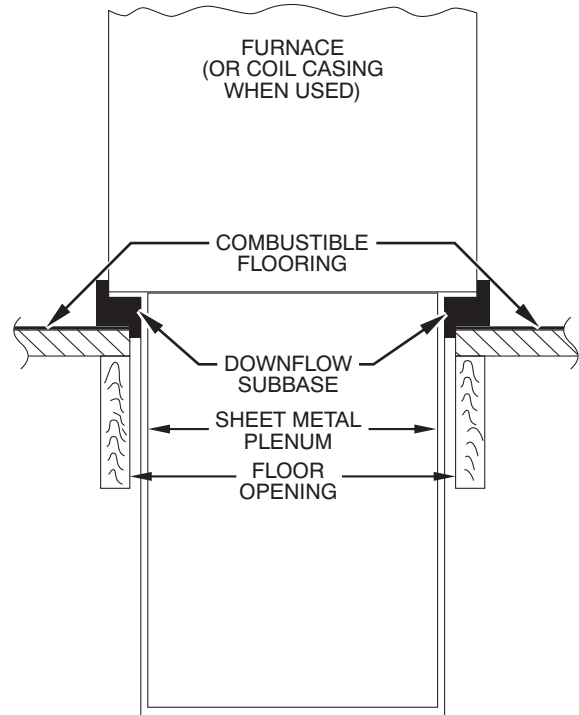
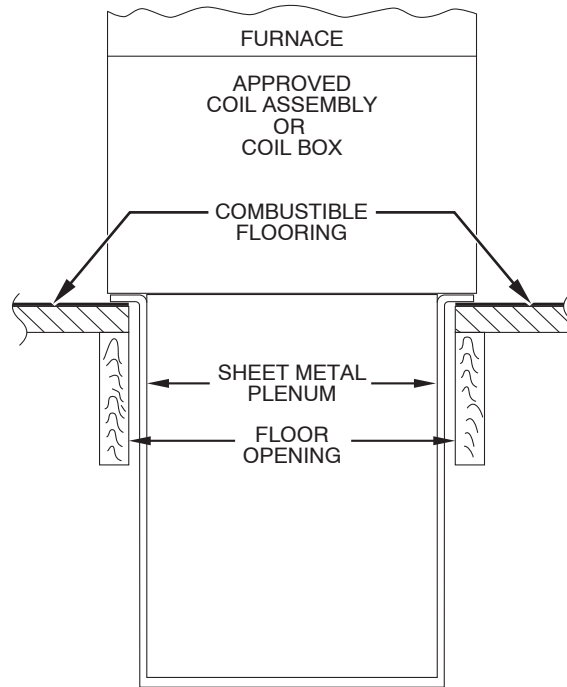

Fig. 12 – Furnace, Plenum, and Subbase Installed on a Combustible Floor
Fig. 13 – Furnace, Plenum, and Coil Assembly or Coil Box Installed on a Combustible Floor
4. If downflow subbase is used, install as shown in Fig. 12. If Coil model number WENC, WTNC, WLNC, WENW, WTNW, or WLNW or Coil Casing model number NAEA is used, install as shown in Fig. 13.